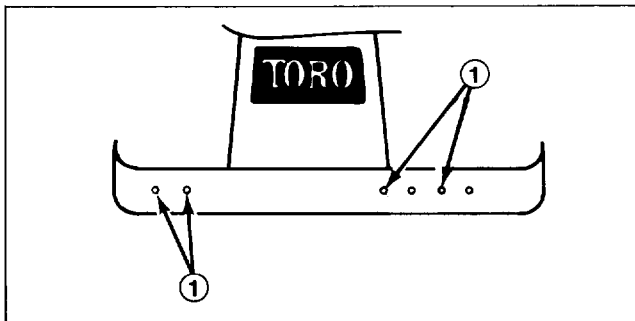

Figure 5
2. Using holes shown in Fig. 5, mount adapter bar to front of traction unit frame with (4) 3/8 - 16 x 2-1/4" lg. capscrews and locknuts.